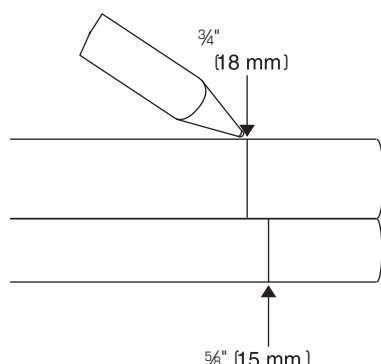

Fig. 19
1. a) **Lay** the RED and GREEN tubes on the top of the diagram, and lay the BLUE tube on the bottom. Use a pen to **mark** them at the arrows (Fig. 19).
- b) Use a ruler or **lay** the tube from the cold water supply on the top of the diagram and **mark** a line at  $\frac{3}{4}$ " (18mm) or at the arrow (Fig. 19).
Damaged o-ring on spout.	<div>-Reinsert spout and check for leaks, p. 4, Fig. 19.</div> <div>If leaking persists, contact Customer Service.</div>